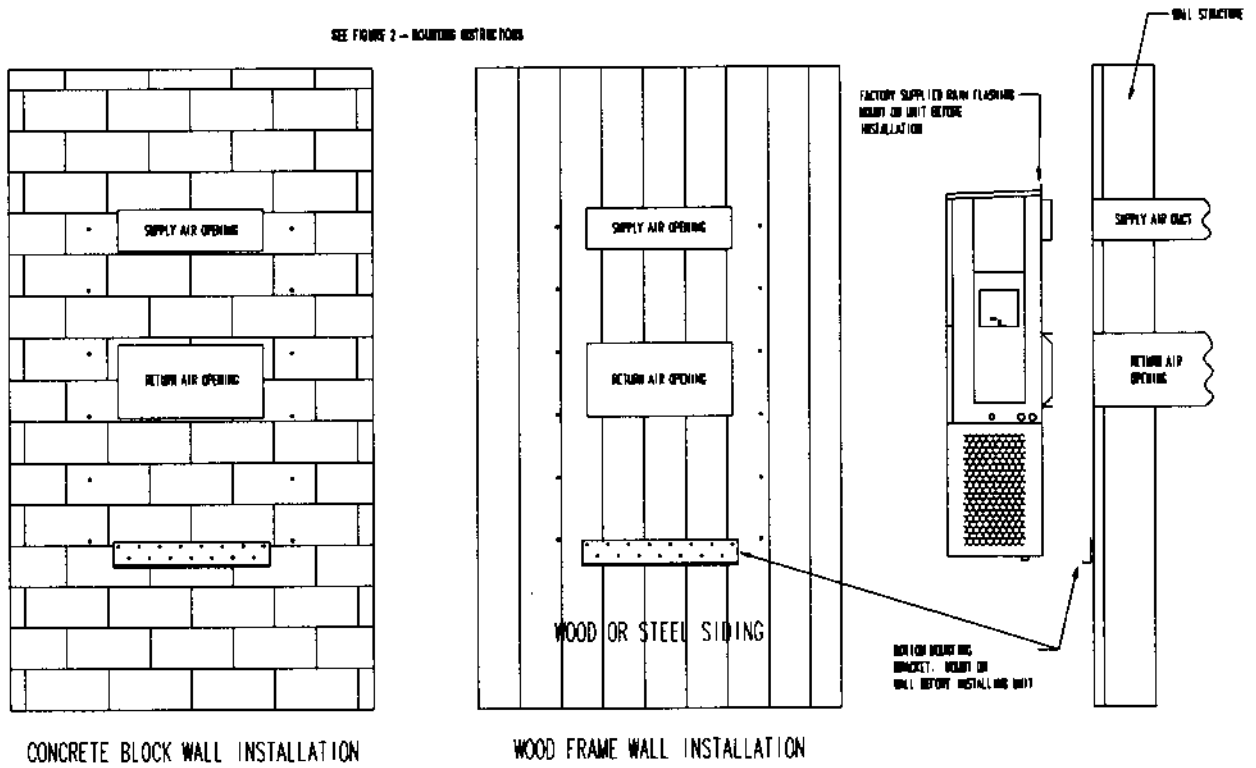

Figure 3 — Wall-Mounting Instructions
2. On wood-frame walls, the wall construction must be strong and rigid enough to carry the weight of the unit without transmitting any unit vibration. See Figures 3 and 4.
3. Concrete block walls must be thoroughly inspected to insure that they are capable of carrying the weight of the installing unit. See Figure 3.